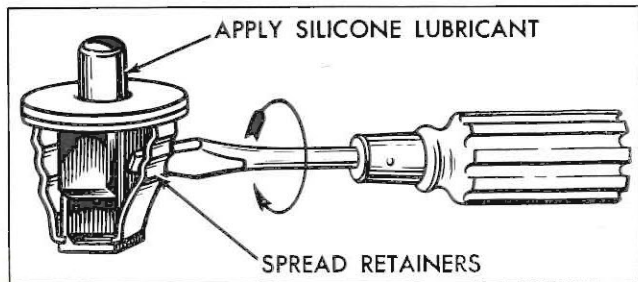

Fig. 8—Door Jamb Light Switch
- b. Using a screwdriver as shown in Figure 8, spread the switch retainer straps to provide a more positive ground connection for the switch.